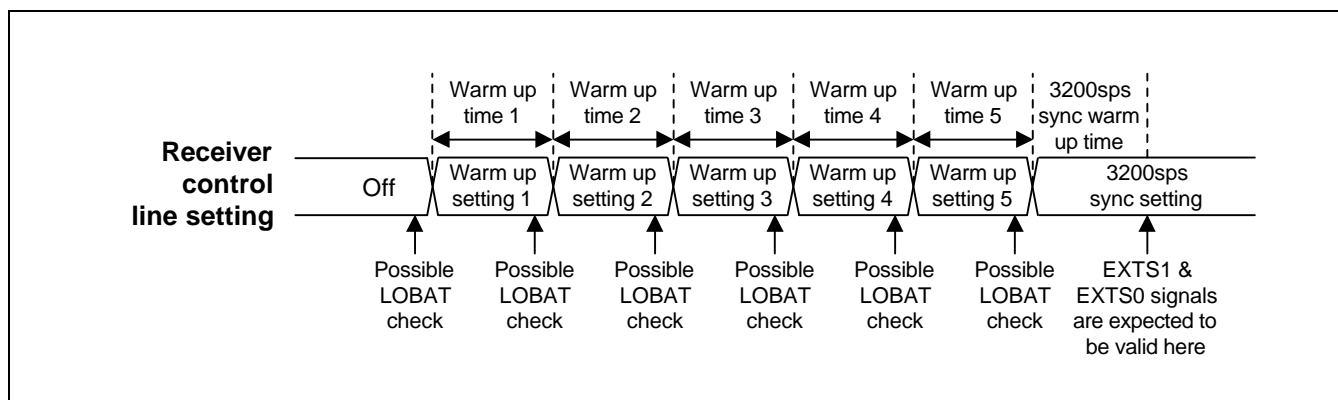

Figure 12: Host Initiated Receiver Warm Up Sequence
The host can cause the S5T8701 to warm-up the receiver in three ways: (1) by turning on S5T8701 by setting the **ON** bit in the control packet; (2) by requesting a noise detect by setting the **SND** bit in the roaming control packet; or (3) by requesting an A-word search by setting the **SAS** bit in the roaming control packet. When the S5T8701 warms up the receiver in response to a host request, the first warm up setting, if enabled, is applied to the receiver control lines for the amount of time programmed for that setting. Each subsequent warm up setting is applied to the receiver control lines for their corresponding time until a disabled warm up setting is found. Once a disabled warm up setting is found, the "3200sps Sync Setting" (for **ON** and **SND** warm ups) or the "1600sps Sync Setting" (for **SAS** warm ups) is applied to the receiver control lines and the decoder does not expect valid signal until after the "3200sps Sync Warm Up Time" (for **ON**, **SND**, and **SAS** warm ups) has expired. In figure 12 on page 56 the receiver warm up sequence when the host initiates a warm-up sequence and when all warm up settings are enabled is shown.